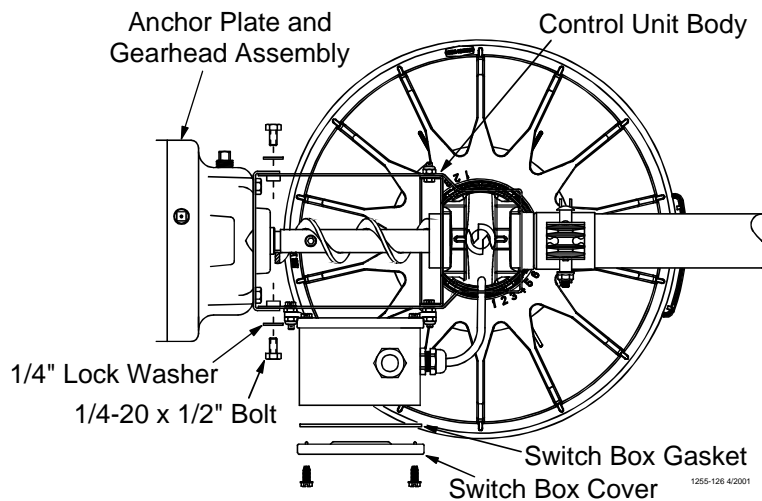

Figure 31. Attaching the Anchor Plate and Gearhead Assembly to the Control Unit Body
7. Attach the Anchor Plate and Gearhead Assembly to the Control Unit Body using the included 1/4" Lock Washers and 1/4-20 x 1/2" Bolts. See **Figure 31**.